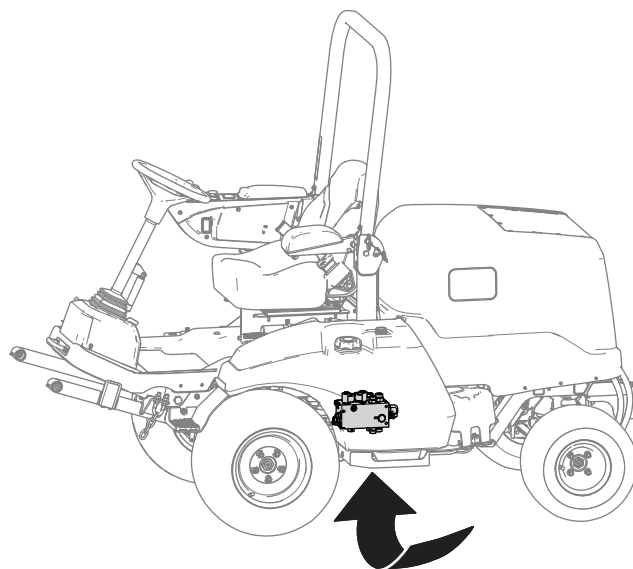

Figure 5
1. Locate the lift manifold from under the machine (Figure 5).